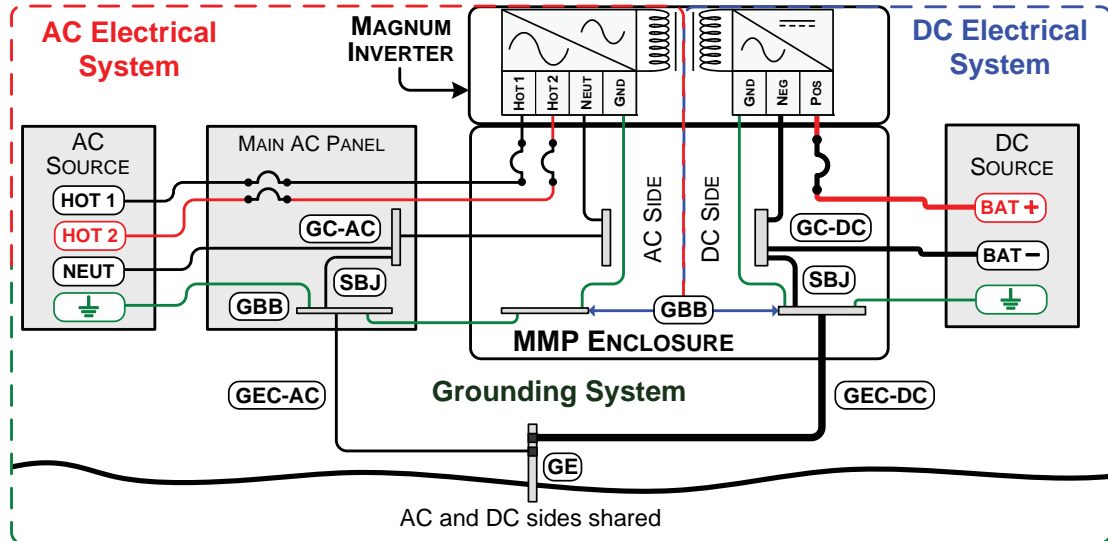

Figure 3-20, Multiple Connections to DC Ground Rod (Method 2)
2. **Multiple Connections to Ground - Single Electrode (Method 2):** When the AC and DC service panels are near each other, then the AC Grounding Electrode Conductor (GEC - AC) and DC Grounding Electrode Conductor (GEC - DC) can be connected to a single Grounding Electrode (see Figure 3-20). In this method - since there are multiple connections to the DC Grounding Electrode (GEC - DC) - the size of the DC grounding electrode conductor cannot be smaller than the largest conductor in the DC system (usually the battery-to-inverter cable).